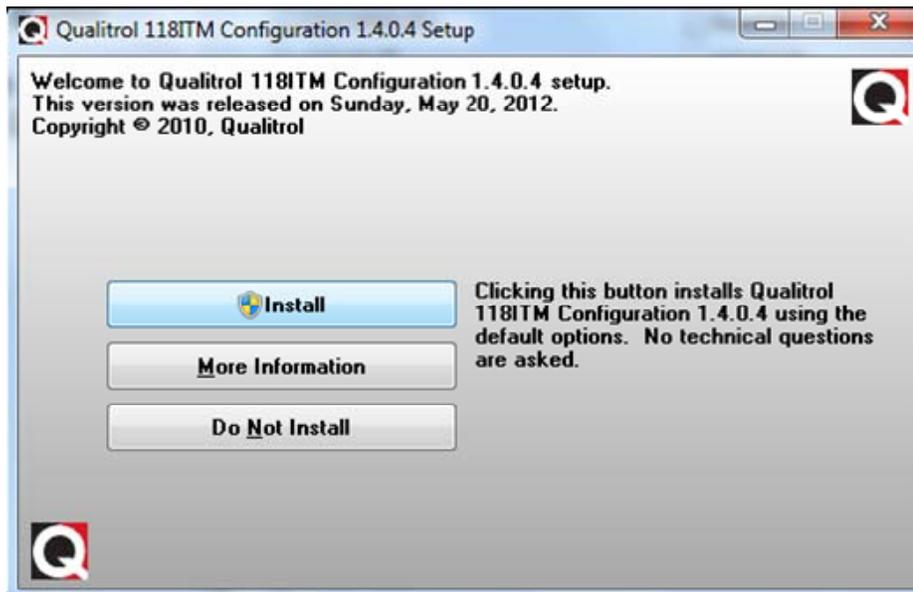

Figure 15 Install Window
2. Please click the “Install” button (figure 15)